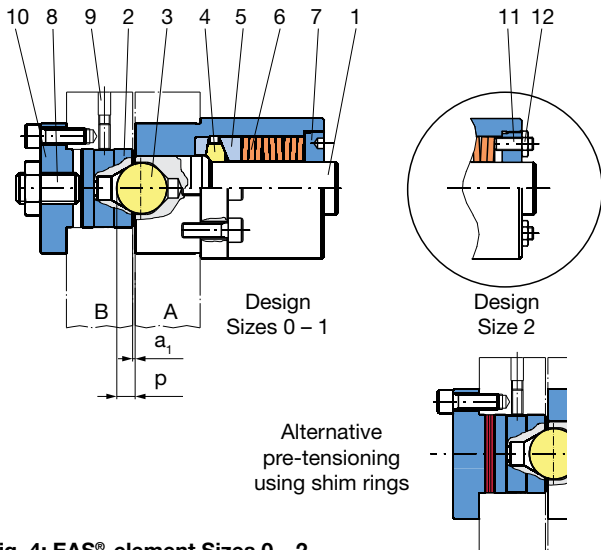
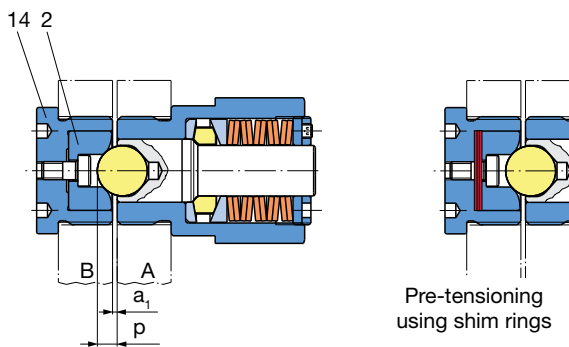

Fig. 4: EAS®-element Sizes 0 – 2
Fig. 5: EAS®-element Sizes 02 – 01
- Grease the thrust piece 2 (Fig. 4) or the adaptor bushing 14 (Fig. 5) well (Please use: grease NLGI class 2 with a basic oil viscosity of 220 mm2/s at 40 °C, e.g. Mobilgrease HP222) and insert in or screw onto flange B. The set screw 9 must be removed.
The limit torque for overload on the clutch is adjusted by changing the cup spring pre-tension of each element. For Sizes 02 – 1, adjustment is carried out via the adjusting nut 7, for Size 2 via 4 set screws 11 (Fig. 4). All 4 set screws must be evenly adjusted and countered. During torque adjustment, it is essential that all elements on the clutch are adjusted evenly.